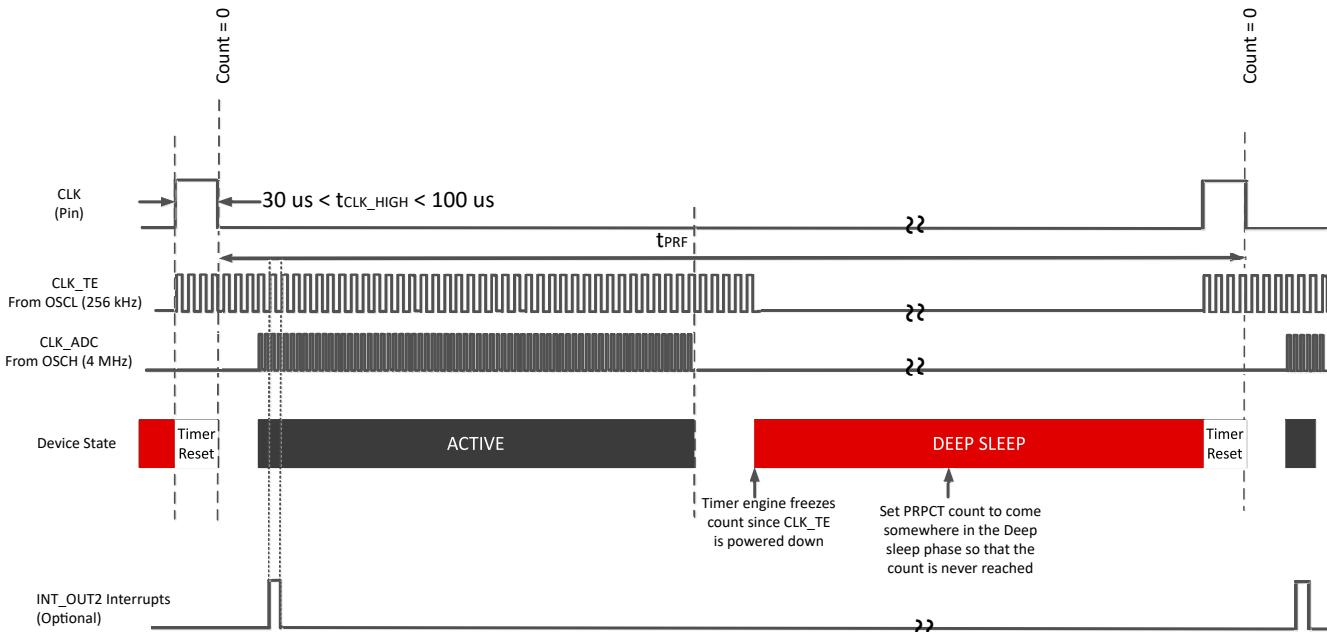

Figure 7-4. Timing Scheme in the Single-Shot Mode
(1) PRF starts by setting a high-going pulse on CLK_EXT. See Figure 7-4.
The timing scheme of the single-shot clocking mode is shown in Figure 7-4.